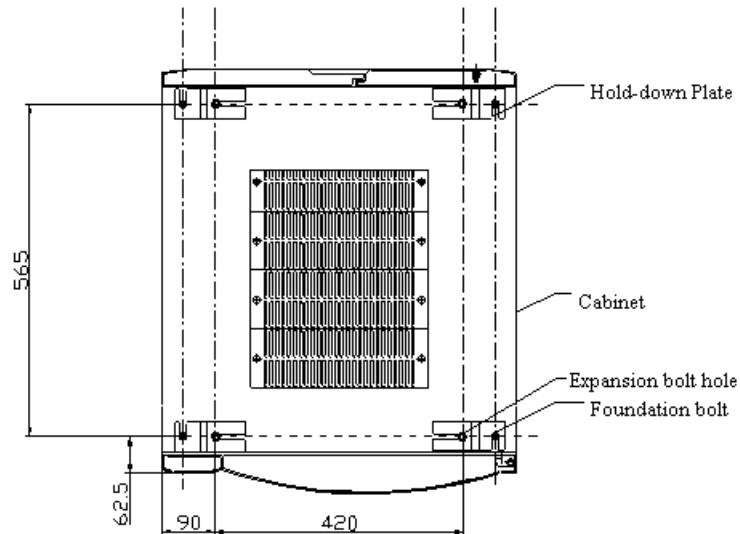

Figure 2-5 Bottom of the cabinet
(3) Do not tighten the expansion bolts so that the installation accessories can be moved. Install the cabinet in the preset position, and then rotate the accessories to move the U-shape opening on the corresponding round steel bar of the cabinet support, as shown in Figure 2-5.